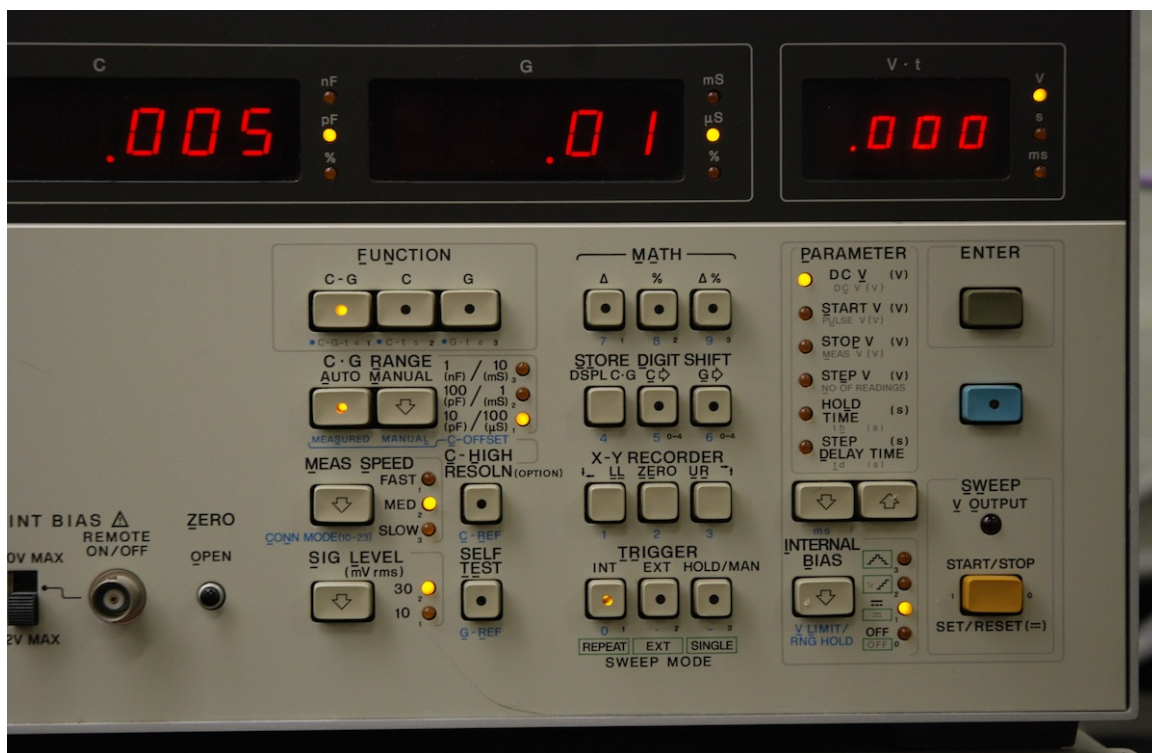

Figure 3. Detail of front panel buttons of the C-V meter.
- a. Select the DC V option in the parameter section of the front panel. (See Fig. 3.)